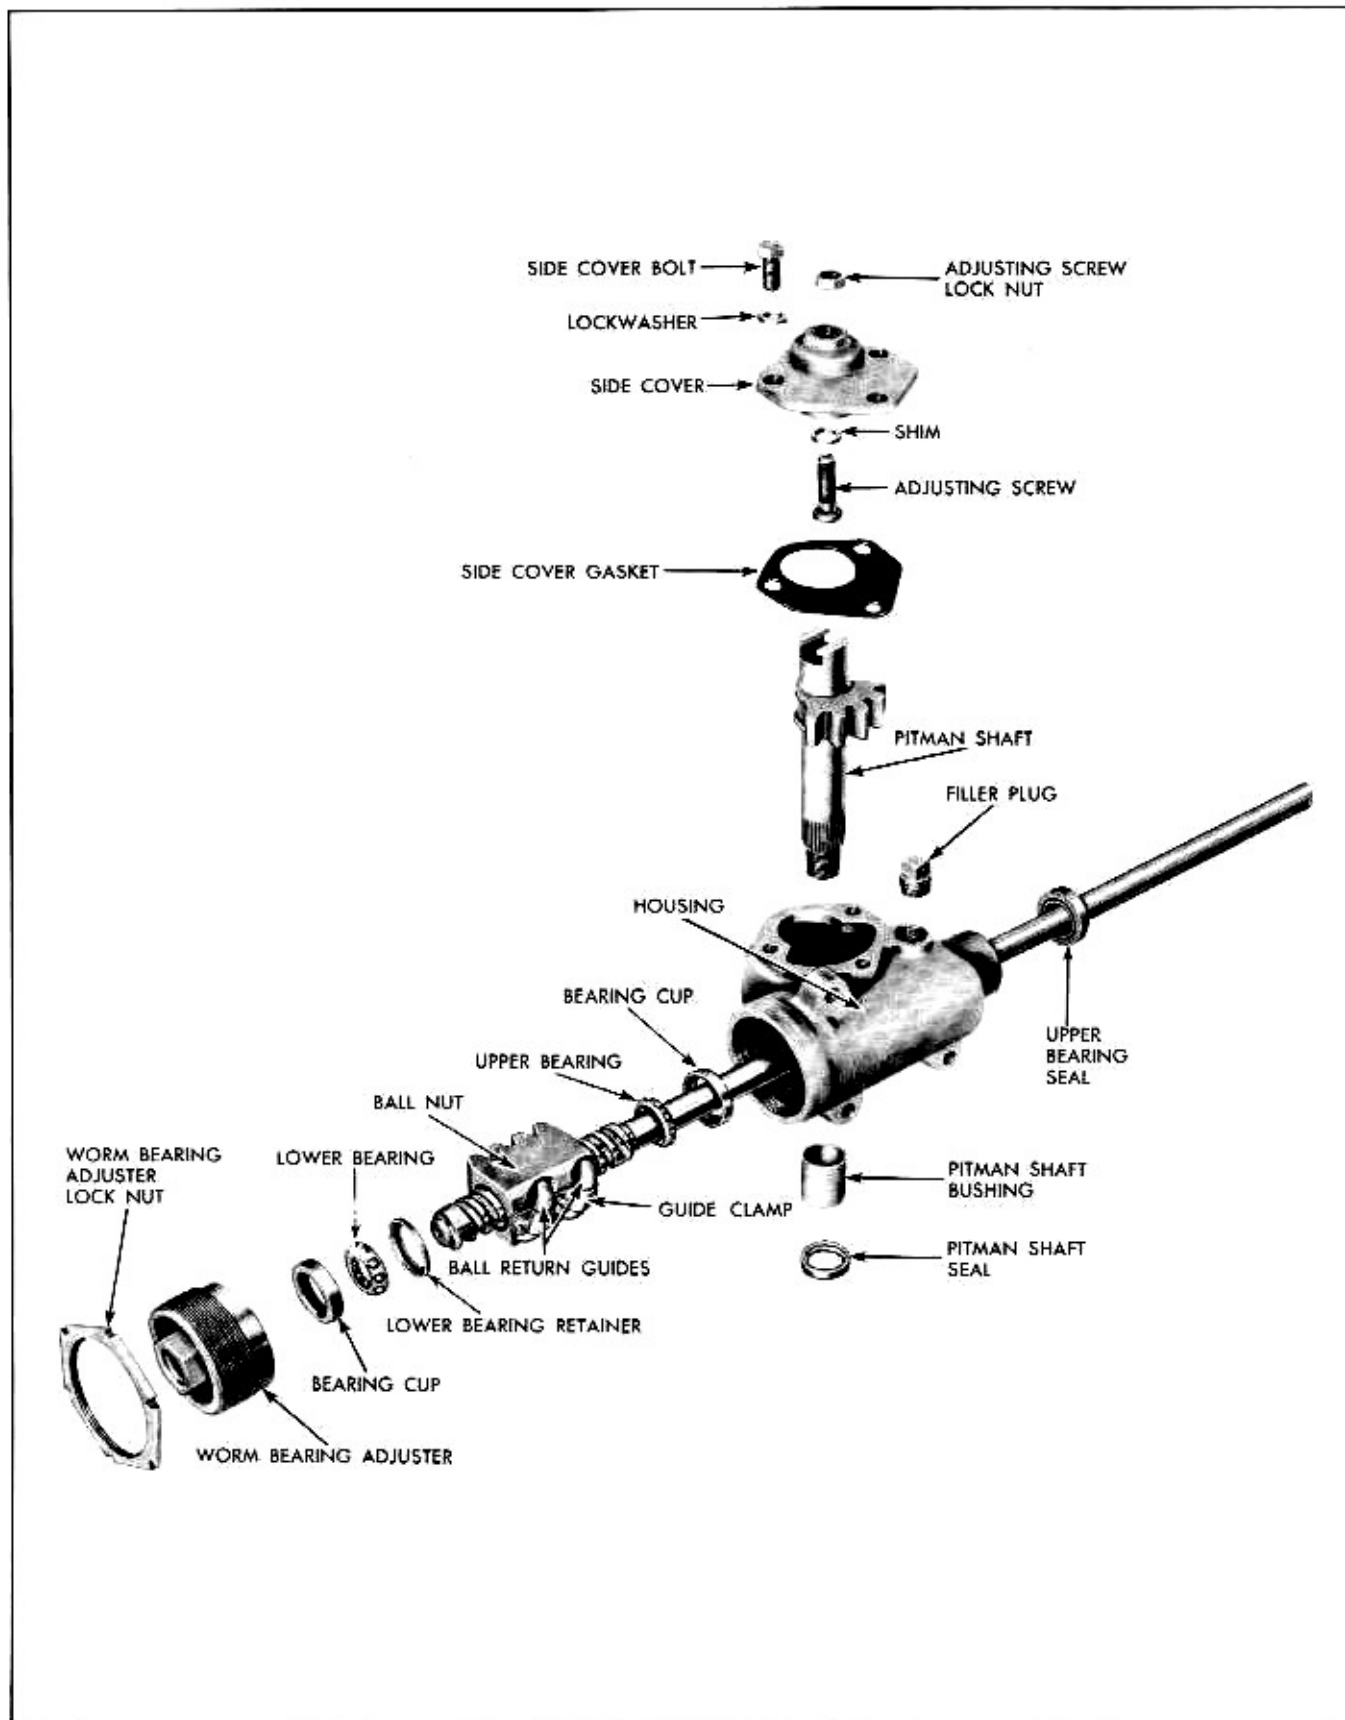

Fig. 9-13 Steering Gear Exploded View
The steering gear (Fig. 9-13) is the recirculating ball nut type having a gear and overall ratio of 24-1. The ball nut, mounted on the worm, is driven through steel balls which circulate in helical grooves in both the worm and nut. Ball return guides, attached to the nut, serve to recirculate the two sets of twenty-five balls each in the grooves.
6. Pull required should be between $\frac{1}{4}$ and $\frac{3}{4}$ pound (standard steering) or $\frac{1}{4}$ and $\frac{5}{8}$ pound (power steering). To correct, loosen worm bearing adjuster lock nut (Fig. 9-13) with brass drift and turn adjuster to bring spring scale pull within limits.